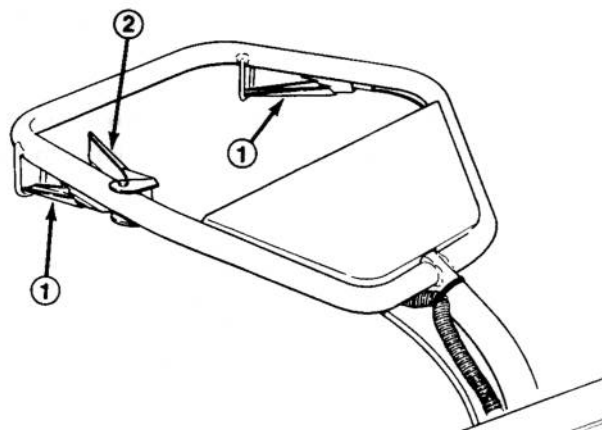

Figure 4
Interlock Lever Switches (2) (Fig. 4)—Switches permit engine operation when the coring head is lowered. They also hold the traction drive lever in the engaged position. One handle switch must be activated before engaging the traction drive or lowering the coring head when engine is running.
Service Brake (Fig. 4)—Used to slow the traction operation.